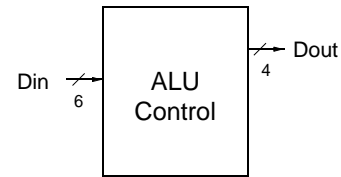

Figure 5: ALU control
- The ALU Control Unit (Figure 5)